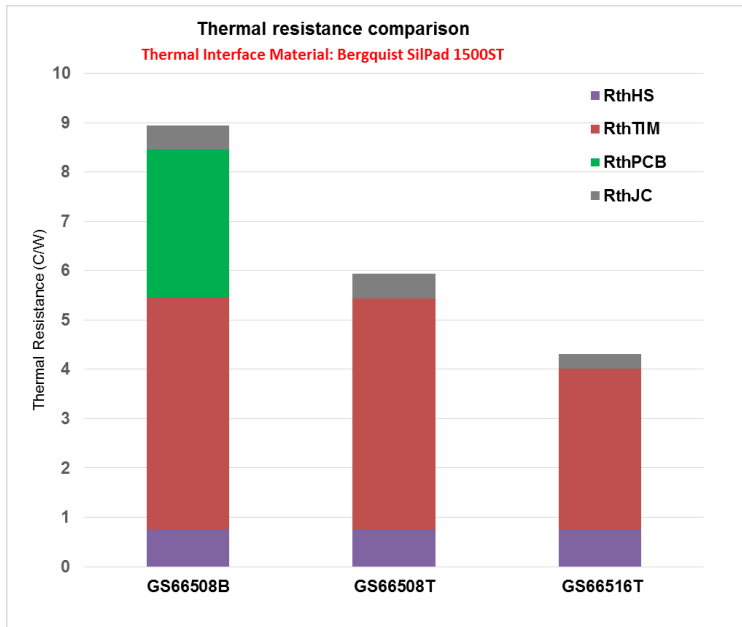

Figure 9 Evaluation board thermal resistance comparison
5. The TIM we use on this assembly is Bergquist® SilPad 1500ST, the measured total thermal resistance can be found in Figure 9. Compared to bottom cooled design, T package eliminates the PCB thermal resistance and significantly improve the thermal performance. Thermal grease is typically not needed on the assembly. If thermal grease is to be applied, use non-conductive and non-capacitive type thermal grease.